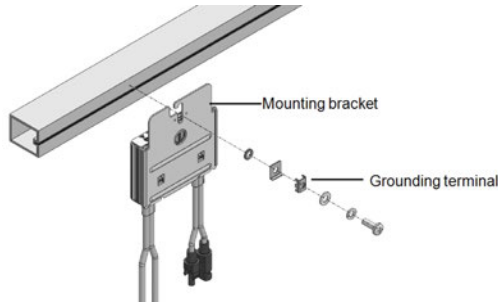

Figure 7: Power optimizer grounding terminal
- **For mounting on un-grounded structures** (such as a wooden structure): If the star washer or the plate cannot be used, use the SolarEdge grounding lug (purchased separately) with an equipment-grounding conductor according to the supplied instructions. The grounding terminal accepts a wire size of 6-14 AWG, and must be sized for equipment grounding per NEC 250.122 requirements. Tighten the screws connecting the power optimizer to the frame and the grounding terminal screw. Apply torque of 9.5 N\*m / 7 lb\*ft. See *Figure 7*